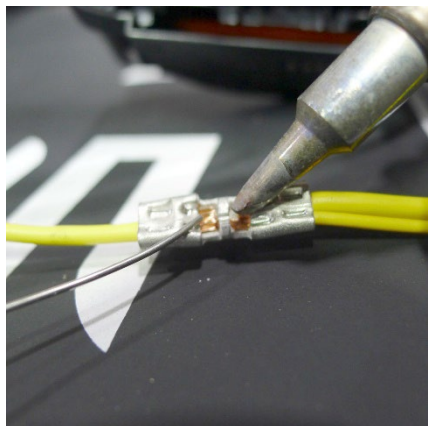

Figure 24 – Crimp wire and solder barrel crimp
22. Make a butt splice repair to attach the yellow power terminal wire to the barrel crimp of the jumper (Figures 24, 25, and 26).